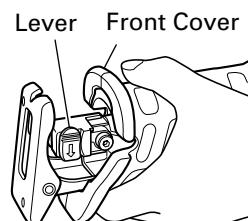

Fig. 2
(1) Turn on and off the switching trigger several times so that the lever can jump out of the front cover completely. Thereafter, turn off the switch and unplug the power cord. (Fig. 2)
- (1) Turn on and off the switching trigger several times so that the lever can jump out of the front cover completely. Thereafter, turn off the switch and unplug the power cord. (Fig. 2)
- Do not remove the front cover (refer to Fig. 2). Be sure to hold the body from the top of the front cover.